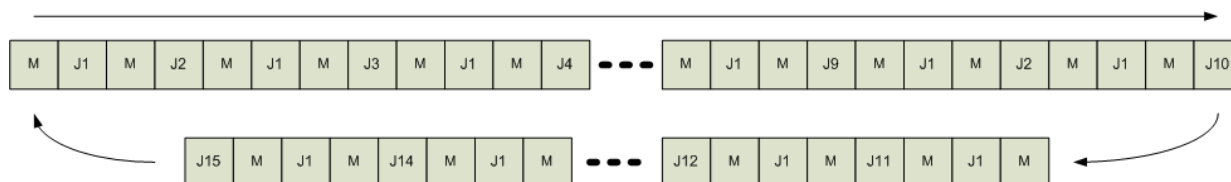
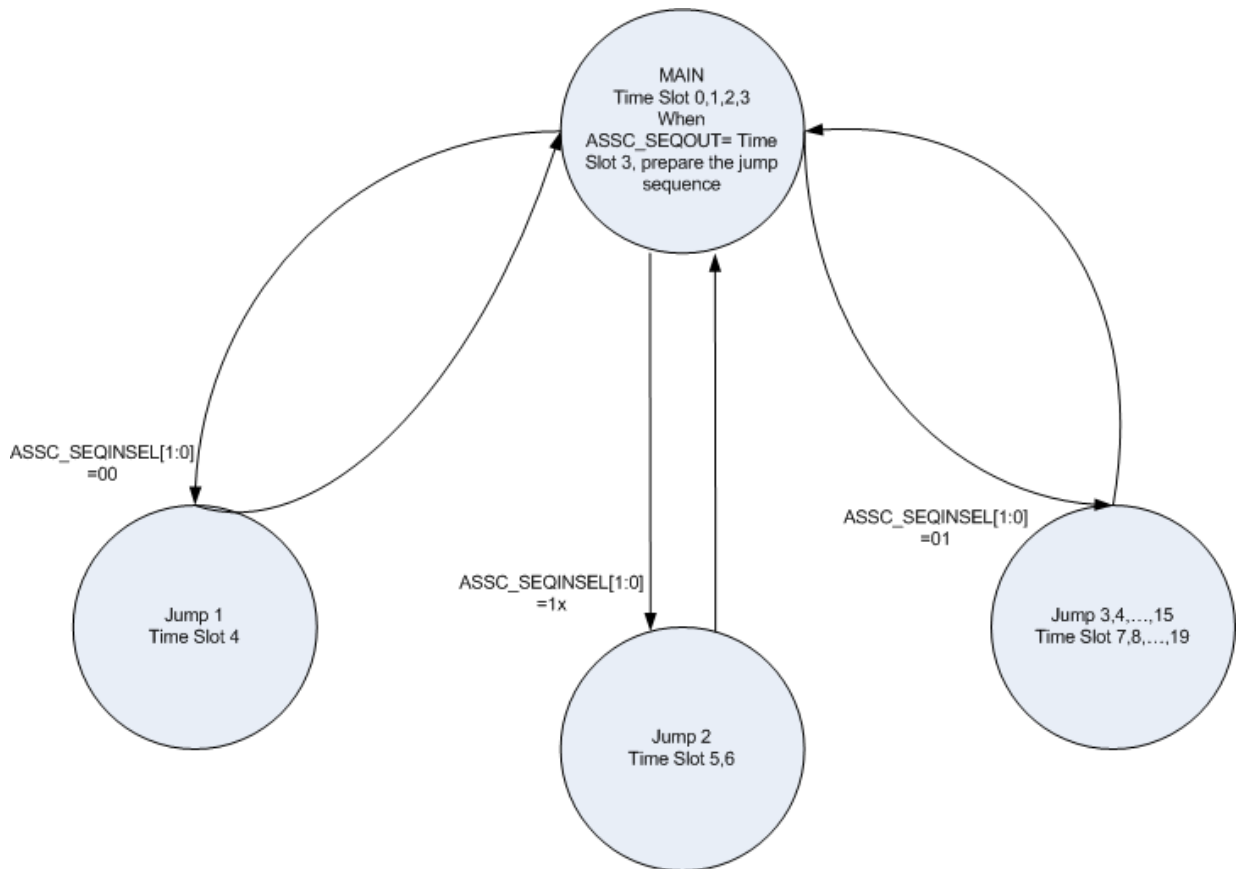
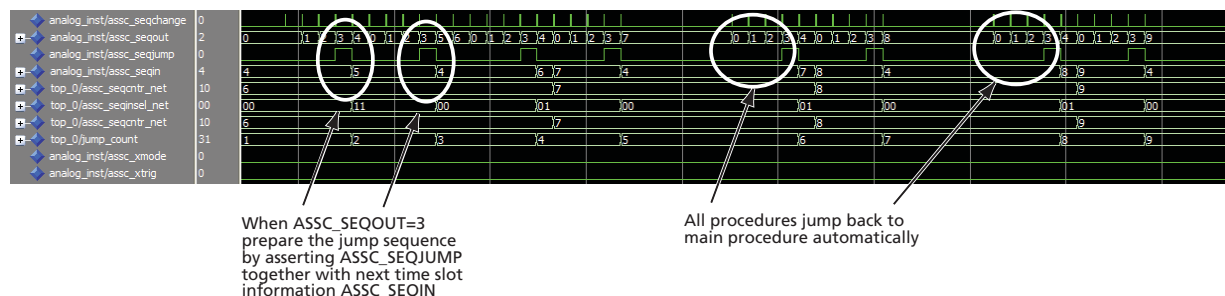

Figure 12 • Procedure Sequence
Figure 14 • Figure 10. State Machine Multiplexing Scheme
Figure 15 • Simulation Result
In order to meet the throughput requirements, the *main* procedure (M) is executed every other sample time, *jump 1* (J1) is executed every 4 sample times, *jump 2* (J2) is executed every 32 sample times, and other jump sequences are executed one time each in the whole sample loop, interspersed in the sequence. The outlook of the sample loop is shown in Figure 12.
The state machine controls the sample sequence following the pattern described in Figure 12. The multiplexing of the state machine is illustrated in Figure 14. For more details on the jump sequence, refer to Figure 15 on page 11.
This design contains 20 active channels and 20 sample time slots. By controlling the ASSC_SEQINSEL[1:0] signal, the state machine sets the ASSC_SEQIN value that dictates the next time slot, or sample sequence number. Volt[4:1] are in the *main* procedure and they are sampled by default, so their corresponding time slot values 0-3 are not directly controlled by this state machine. Value 4 triggers time slot 4, or *jump1* (Volt[5]). Value 5 triggers time slot 5 and 6 for *jump2* (Volt[5:6]). The counter outputs 7 to 19 are for time slots 7 to 19, which trigger *jump3* to *jump15* respectively. For more details on the state machine, refer to the sample design files. Figure 15 shows the simulation result.